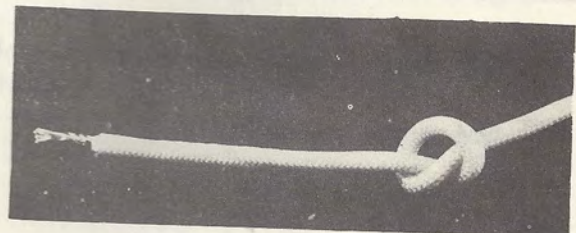

Fig. 8-5
Step 3. Make a knot in the other end of this wire lead, as in Fig. 8-5, and then pull it tight. This end of the lead will be connected shortly to the positive terminal of the 6-volt battery clip. The purpose of this knot at the free end of the lead is to help you identify it later. This is a method used by many servicemen to identify a wire lead when it might be confused with other leads on the same wire.